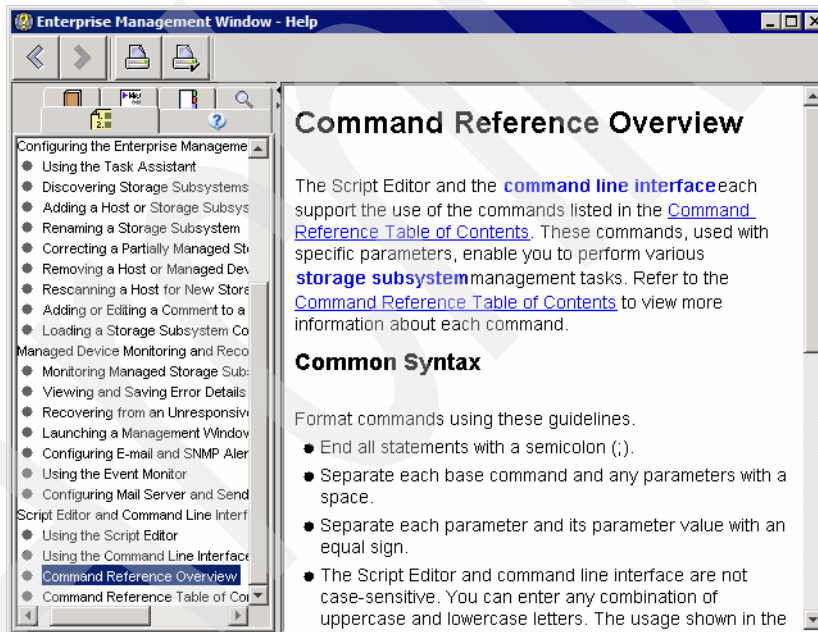

Figure C-4 Command reference
4. The Script Editor contains an online help that describes the use of each of the available commands. Select **Help** → **Command Reference** to display the online help (Figure C-4) or **Help** → **Overview** for help on using the Script Editor itself.